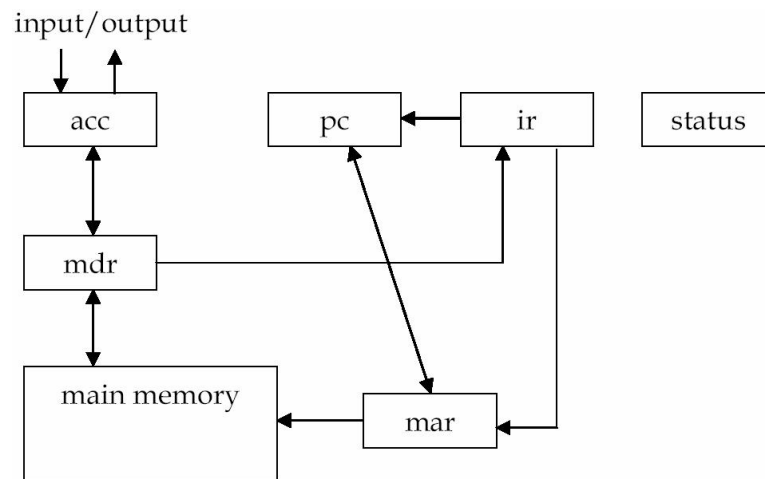

Figure 1: Diagram of data movement in the Wombat1.
You will construct a hypothetical machine, name it Wombat1, with the basic structure shown in Figure 1 (The arrows in the figure indicate the movement of data by the microinstructions).
Now we need to construct the necessary microinstructions that will be used to implement the machine instructions. There are 7 transfer, 4 arithmetic, 2 test, 1 increment, 1 decode, 2 io, 2 memory access, and 1 set condition-bit microinstructions that need to be created. The 7 transfer microinstructions are displayed by arrows between the registers in Figure 1.
3. Select and open the text file you named for the Wombat1 machine. If the machine loads without error, then the title of the main display should become “Wombat1” and two windows should appear inside the desktop (see Figure 1).